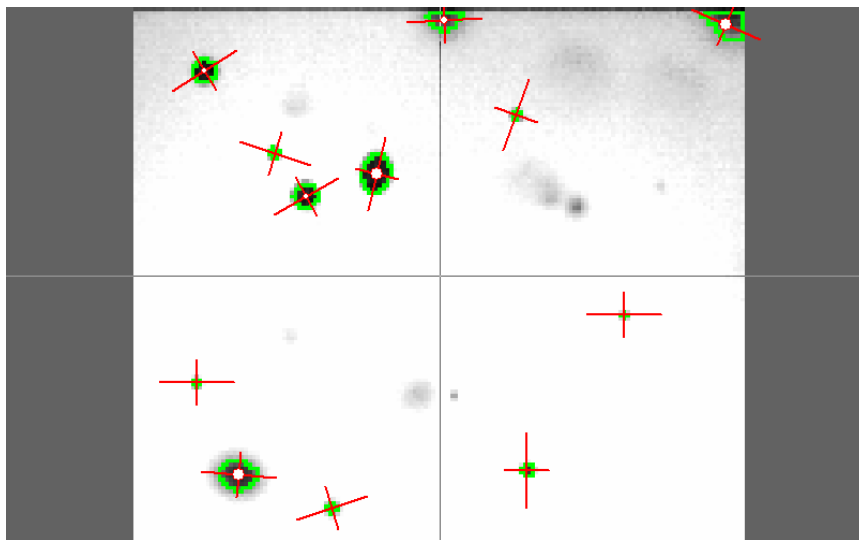

Figure 8
- Click the **Raw** video tab to view the results of the particle track against the unprocessed video image (Figure 8).